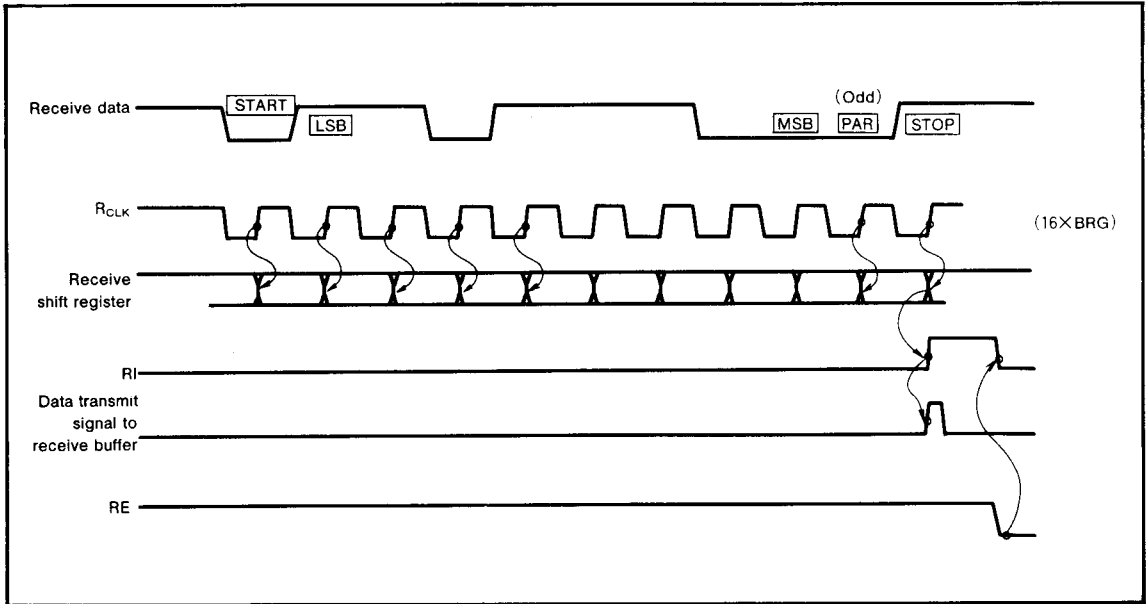
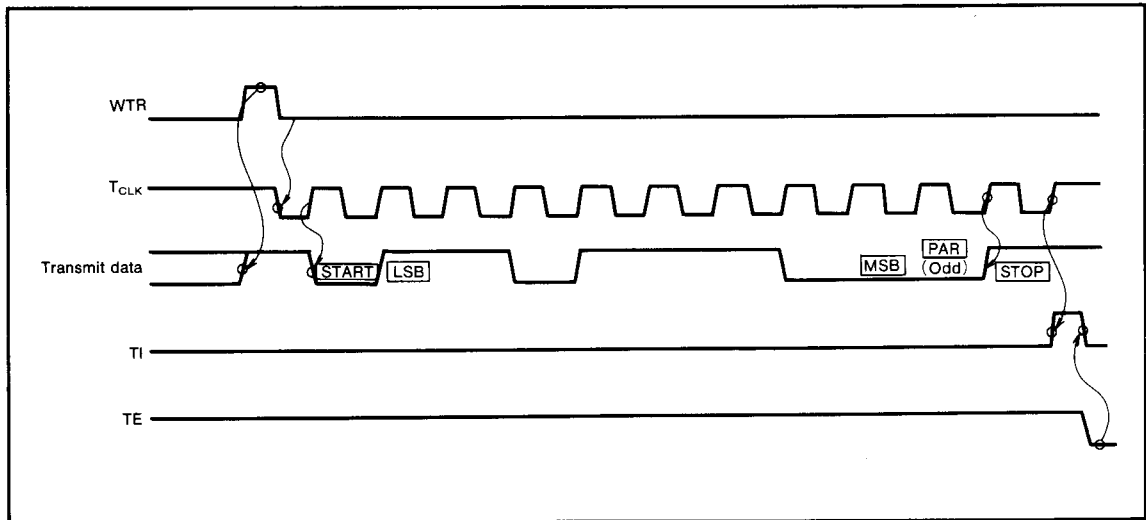

Fig.15 Receive operation (8-bit+1 parity mode)
Fig.16 Transmit operation (8-bit+1 parity mode)
This bit is cleared to "0" when the receive enable bit is set to "0" or data is written to the receive buffer register. When an overrun error occurs, this bit is set to "1". An overrun error occurs when the next data is transmitted from the receive shift register to the receive buffer register while the receive interrupt request bit (RI) is "1". The receive and transmit operations are shown in Figure 15 and Figure 16.